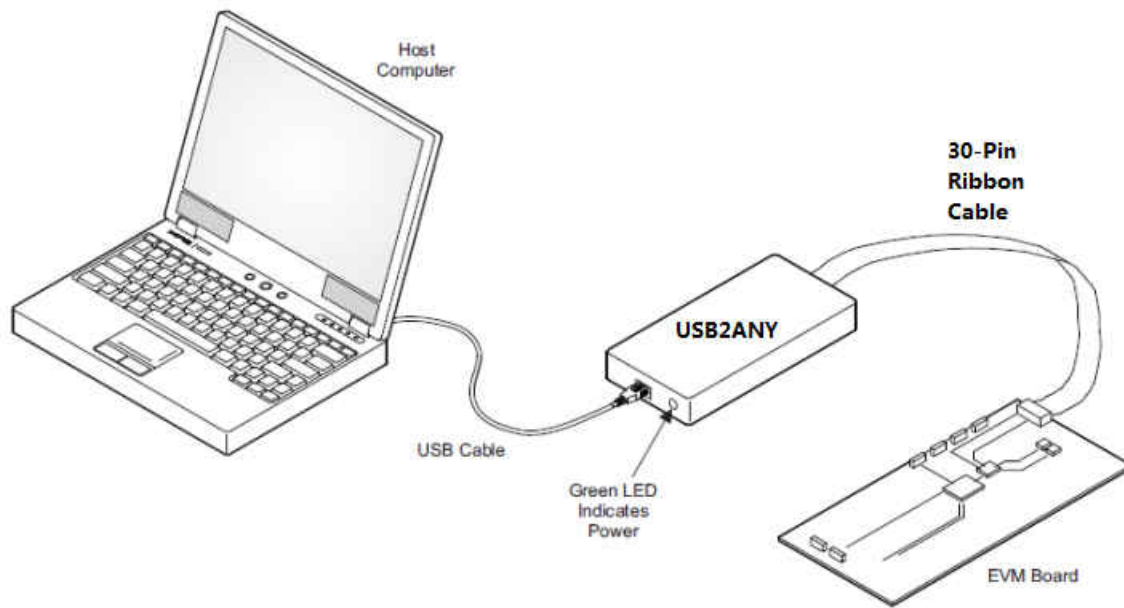

Figure 4-2. USB Interface Adapter Quick Connection Diagram
1. Connect the USB port of USB2ANY to the PC using the USB cable and the other end to J13 of the TPS65400 using the supplied 30-pin ribbon cable (Figure 4-2). The connectors on the ribbon cable are keyed to prevent incorrect installation.